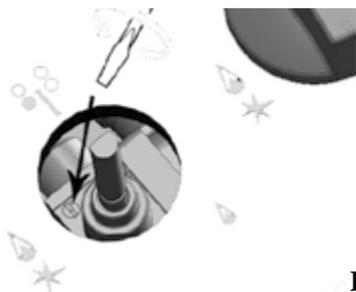

Fig. 6
- Introduce a flat-tip screwdriver C in the hole F of the tap (**fig. 6**) and turn the by-pass screw up to a proper adjustment of the lowest flame point.